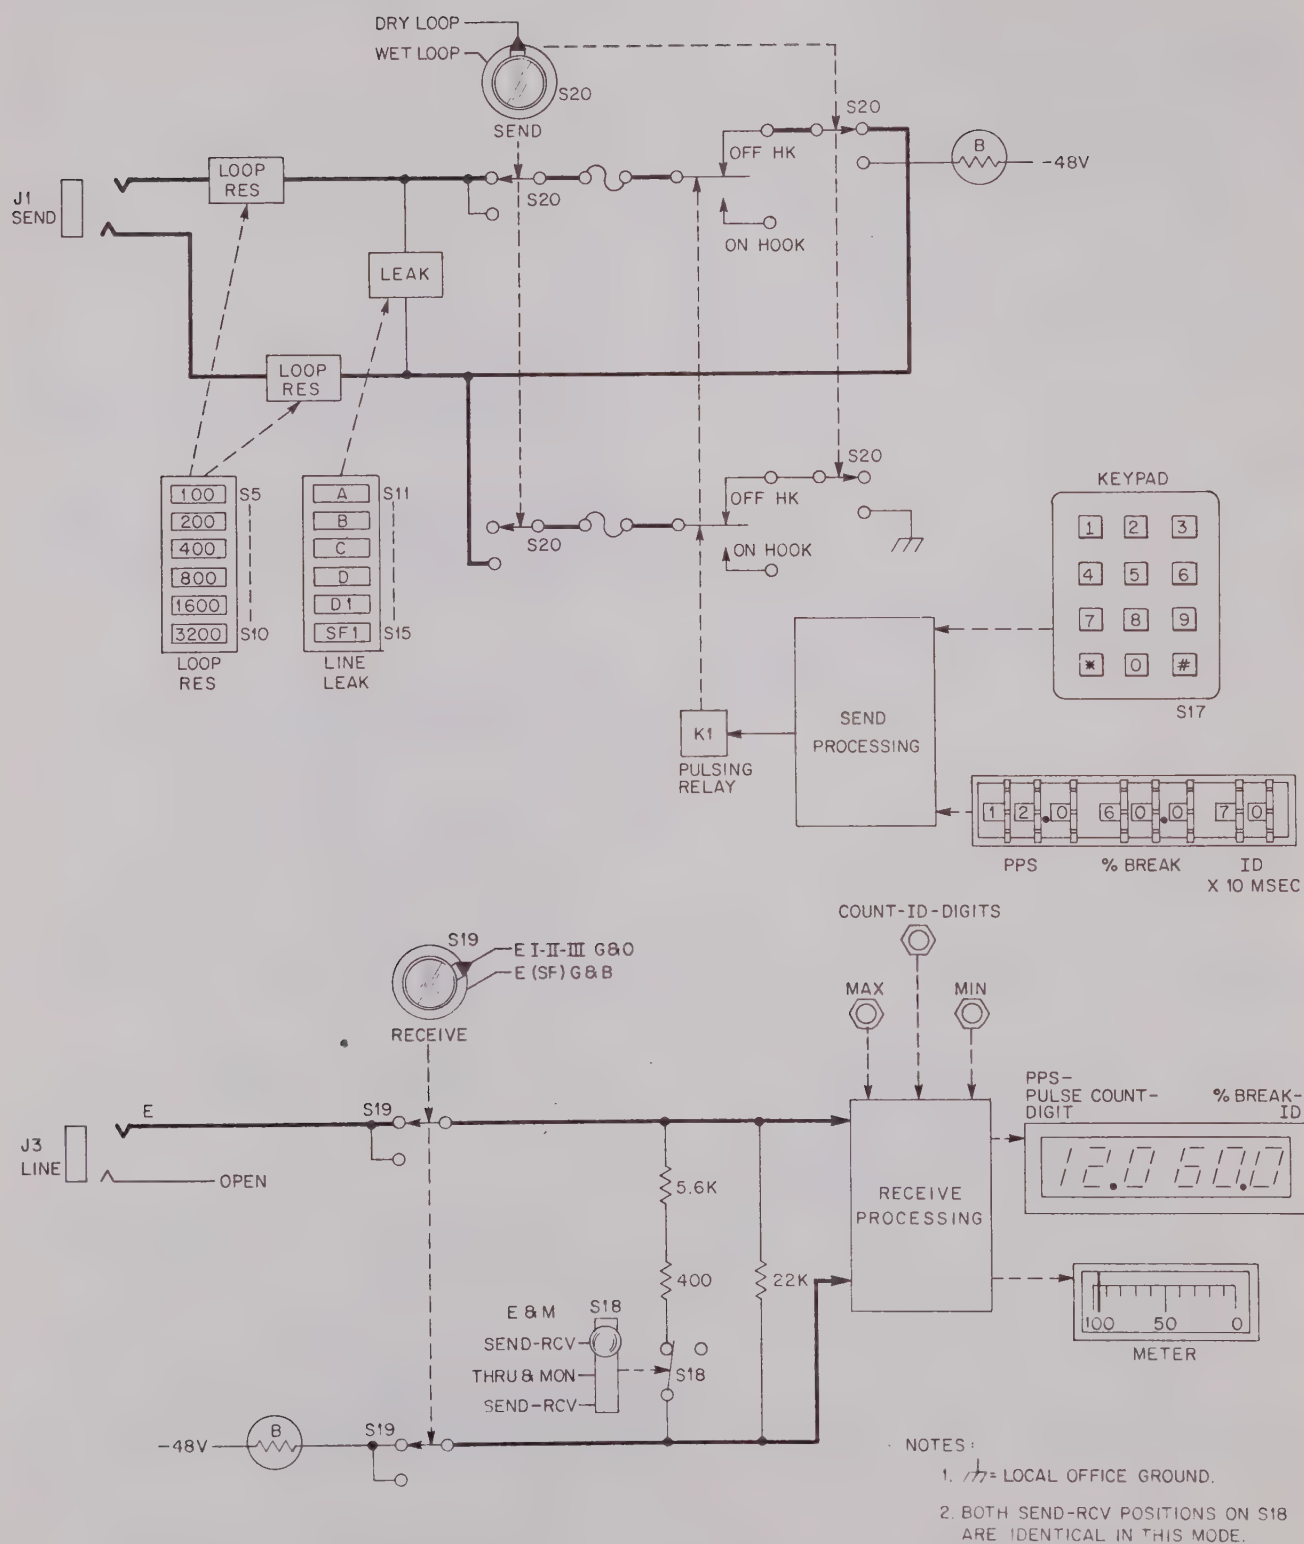

Figure 4-15. Sending Loop While Receiving On The E Lead
4.58 The 1260A provides capability for checking such items as loop-to-E&M converters and E&M-to-loop converters. See Figures 4-15 through 4-20 for illustrations that show the relationships between the jacks and internal circuits that define the conditions that can be sent and those that can be measured. To operate in mixed modes, perform the following steps.